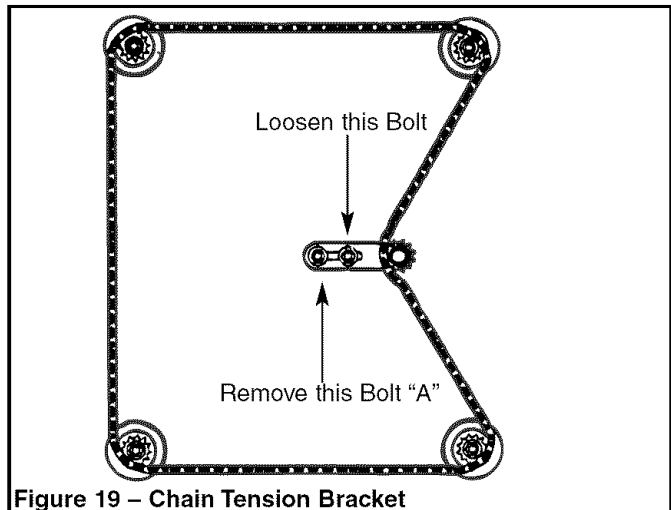

Figure 19 – Chain Tension Bracket
- If roller case is not parallel to the table, then the table must be adjusted. Loosen the two bolts holding the chain tension sprocket (See Figure 19). It may be necessary to remove bolt "A" to release the tension in the chain.